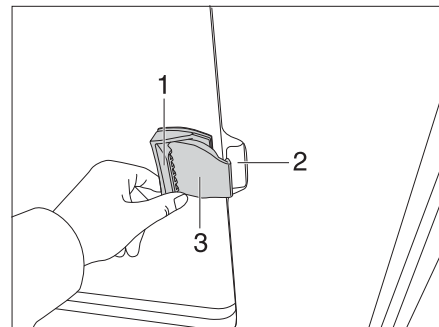

Fig. 63 Sliding window without lock
- Pull the handle flap (Fig. 63,1) and push or pull the handle forwards at the same time.